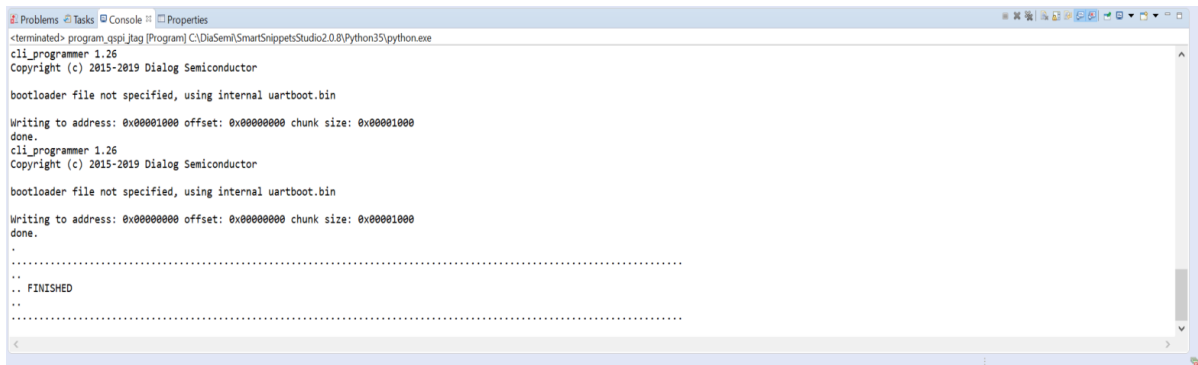

Figure 7: Programming the Flash Image
1. To write the generated image into the Flash memory, run the external script `program_qsapi_jtag` (Figure 7).